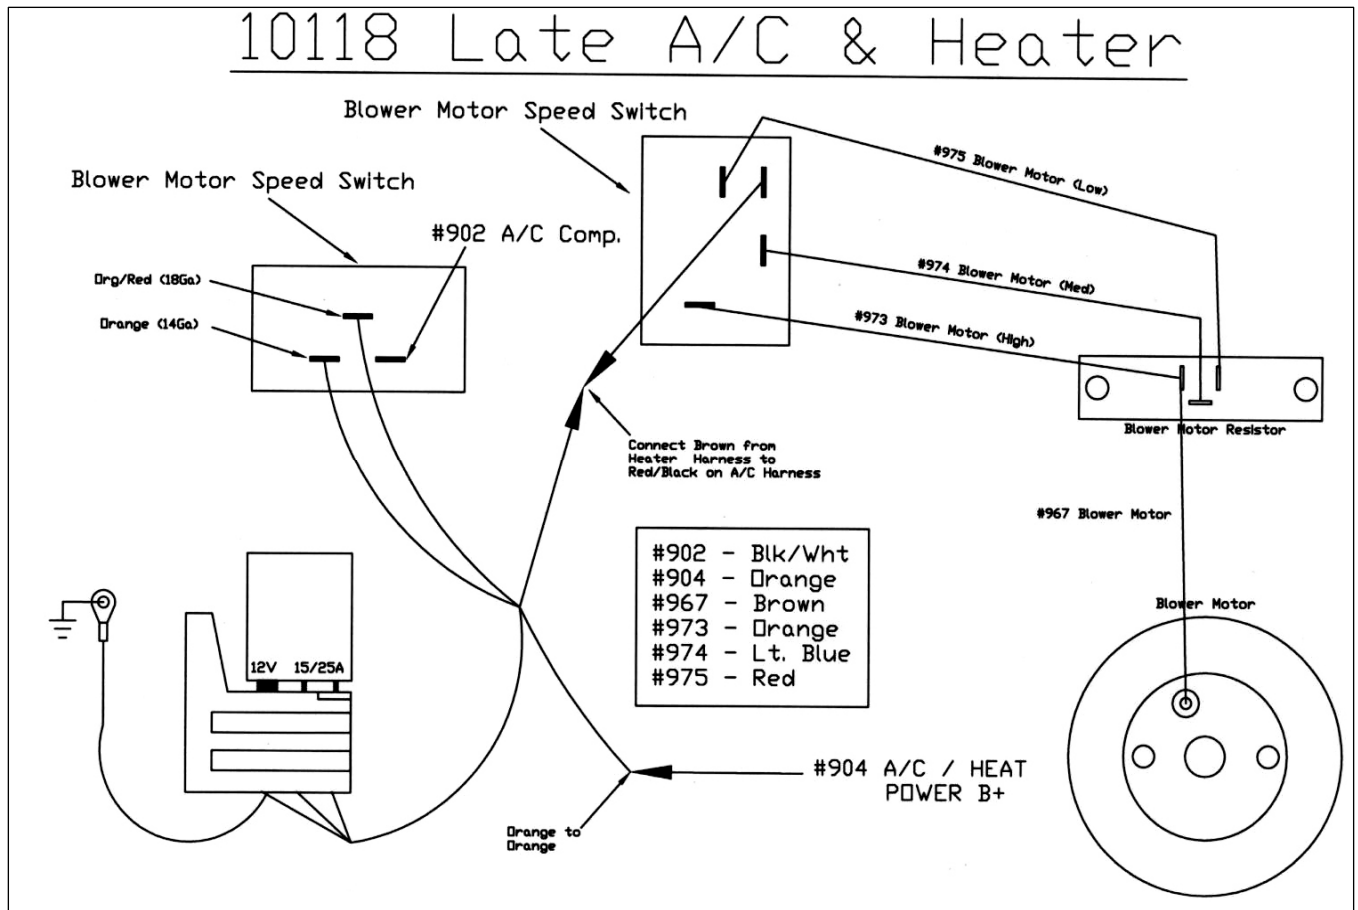

Figure 7-31 A/C - Heater Harness Installation for 1973-1977 years only
7.14.4 For all 1973-1977 Ford Trucks with a factory Heater and Air Conditioning, locate the Heater Harness and A/C Relay Harness in the parts kit and install as shown below in **Figure 7-31**.